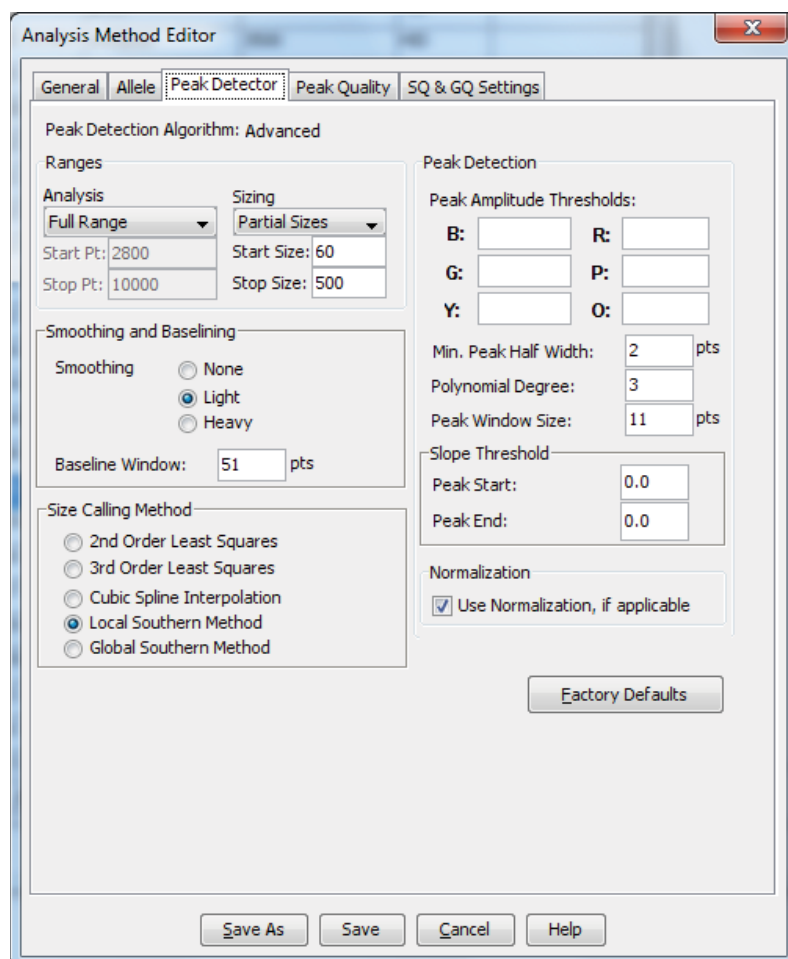

Figure 15. The GeneMapper® ID-X 'Peak Detector' tab.
9. Select the ‘Peak Detector’ tab (Figure 15). You will need to optimize these settings. In-house validation should be performed.
4. The peak window size shown in Figure 15 is not the default setting. It has been changed to 11 from the default value of 15. This ensures that the software can resolve alleles in the ladder that are 1 base apart for the larger loci such as D1S1656, D12S391 and D2S441.
9. Select the 'Peak Detector' tab (Figure 15). You will need to optimize these settings. In-house validation should be performed.